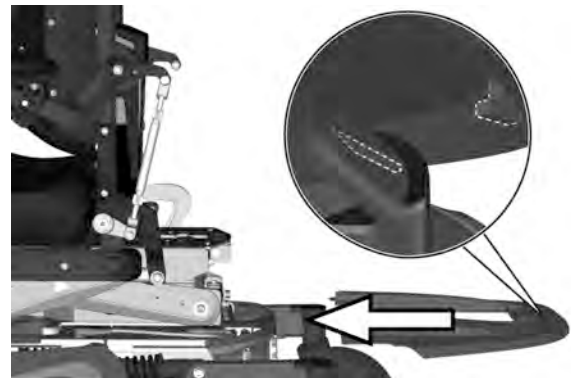

Figure 9. The chassis top cover.
4. Slide the top chassis cover on to the chassis and at the same time push the rear edge of it downwards to make sure it hooks on to the rear chassis cover. See fig. 9.